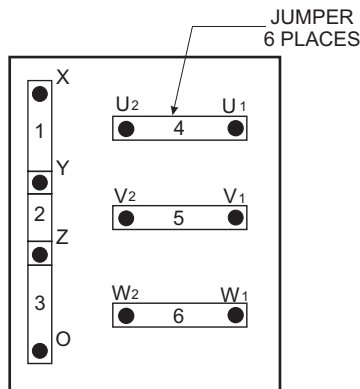

Figure 14. Voltage Change-Over Board
1. Jumper the **voltage change-over board** for **240-volt operation** as shown in Figure 14.
1. Make sure the **voltage change-over board** is jumpered for **240-volt operation** as shown in Figure 14.